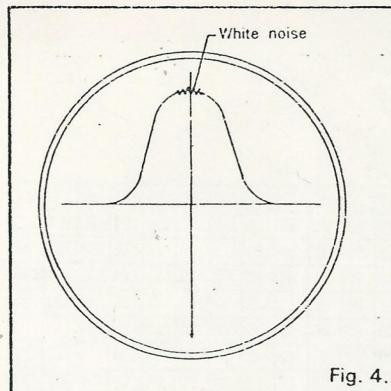

Fig. 4.
- (b) As the sweep generator output is increased the waveform similar to Fig. 4 will appear. Adjust the two IFTs in the FM TUNER PACK to obtain maximum gain and band width.